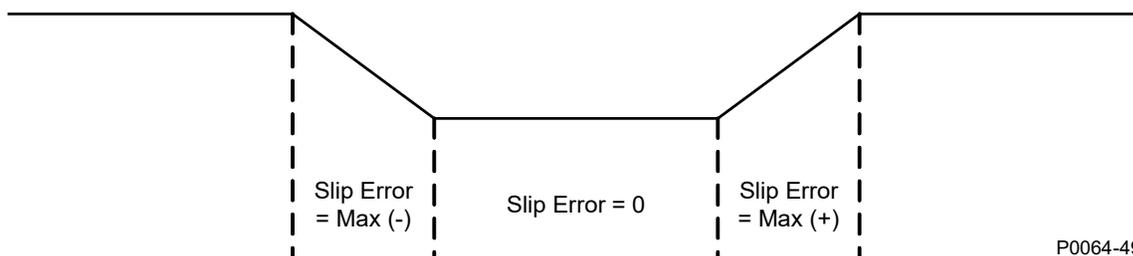

Figure 13-1. Slip Frequency Error
The Sync Slip Frequency error is determined by the Min and Max Slip Control Limit settings. These settings are used to calculate the slip frequency error and to provide continuous slip frequency control while in phase lock synchronization. If the slip frequency magnitude is above the Max Slip Control Limit, the error is set equal to the Max Error in the opposite polarity. If the slip frequency magnitude is below the Min Slip Control Limit, the slip frequency error is zero (0). When it is between the two limits, the error is calculated internally by the DGC-2020HD. Slip frequency error is shown in Figure 13-1.